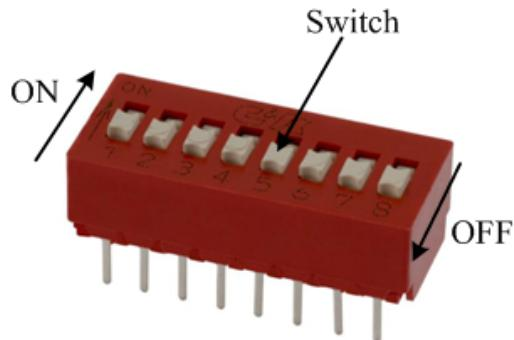

Figure 6: 16-pin DIP Switch
2. Figure 6 depicts a DIP switch, which is a set of electrical switches that are packaged in a standard Dual In-line Package (DIP). This type of switch is designed to be used on a printed circuit board or bread-board along with other electronic components and provides user input to a digital circuit. DIP switches usually come in packages with eight switches. The eight switch package offers up to 256 total combinations. In this lab class, we will use these DIP switches to read in a '0' (Off condition) or a '1' (On condition) from the user.